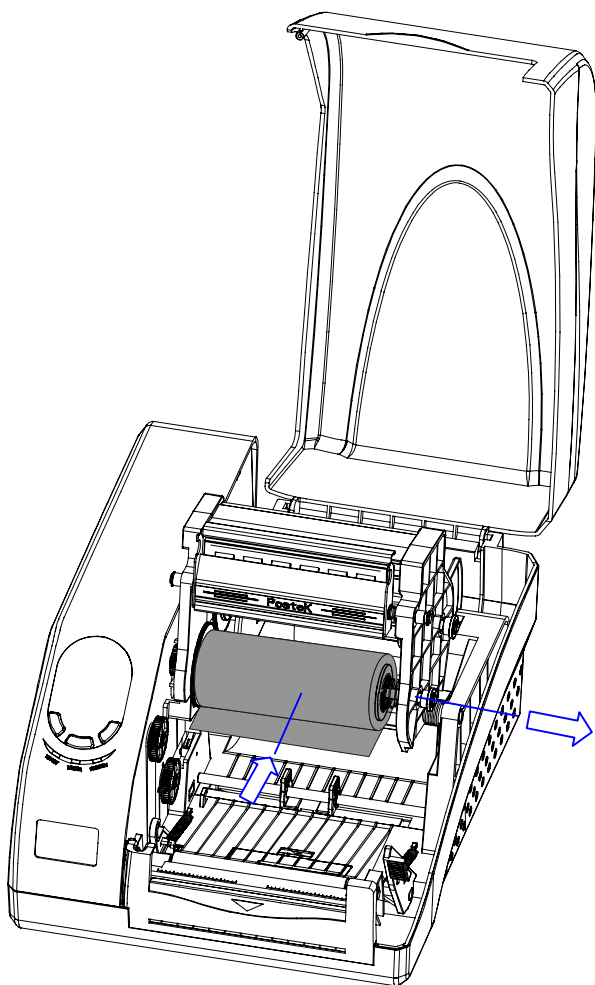

Figure 5-4
6. Load the Ribbon Spindle into the printer and route the ribbon through the Printhead Module as shown in Figure 5-4.